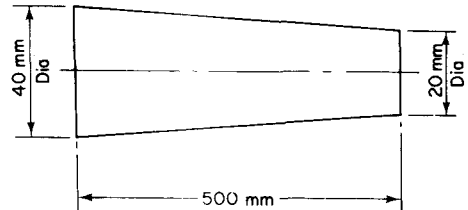

Fig. 1.12
**Example.** Fig. 1.12 shows a taper piece. Find the taper ratio.